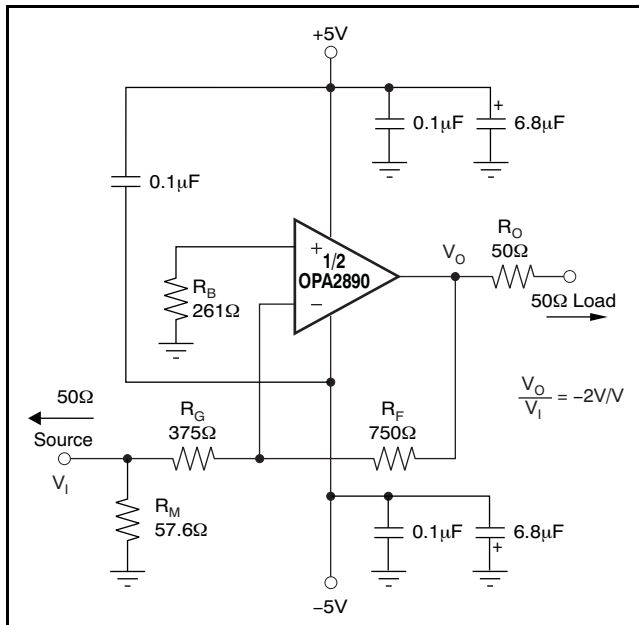

Figure 59. Gain of  $-2V/V$  Example Circuit
The OPA2890 is a general-purpose, wideband, voltage-feedback op amp; therefore, all of the familiar op amp application circuits are available to the designer. Inverting operation is one of the more common requirements and offers several performance benefits. See Figure 59 for a typical inverting configuration where the I/O impedances and signal gain from Figure 49 are retained in an inverting circuit configuration.
The second major consideration, touched on in the previous paragraph, is that the signal source impedance becomes part of the noise gain equation and influences the bandwidth. For the example in Figure 59, the  $R_M$  value combined in parallel with the external 50Ω source impedance yields an effective driving impedance of  $50\Omega \parallel 57.6\Omega = 26.7\Omega$ . This impedance is added in series with  $R_G$  for calculating the noise gain (NG). The resultant NG is 2.86V/V for Figure 59, as opposed to only 2V/V if  $R_M$  could be eliminated as discussed above. Therefore, the bandwidth is slightly lower for the gain of  $-2V/V$  circuit of Figure 59 than for the gain of  $+2V/V$  circuit of Figure 49.
Evaluating these two equations for the OPA2890 circuit and component values (see Figure 49) gives a total output spot noise voltage of 17.5nV/√Hz and a total equivalent input spot noise voltage of 8.7nV/√Hz. This result includes the noise added by the bias current cancellation resistor (350Ω) on the noninverting input. This total input-referred spot noise voltage is only slightly higher than the 8nV/√Hz specification for the op amp voltage noise alone. This result is the case as long as the impedances appearing at each op amp input are limited to the previously recommend maximum value of 400Ω. Keeping both ( $R_F \parallel R_G$ ) and the noninverting input source impedance less than 400Ω satisfies both noise and frequency response flatness considerations. Because the resistor-induced noise is relatively negligible, additional capacitive decoupling across the bias current cancellation resistor ( $R_B$ ) for the inverting op amp configuration of Figure 59 is not required.